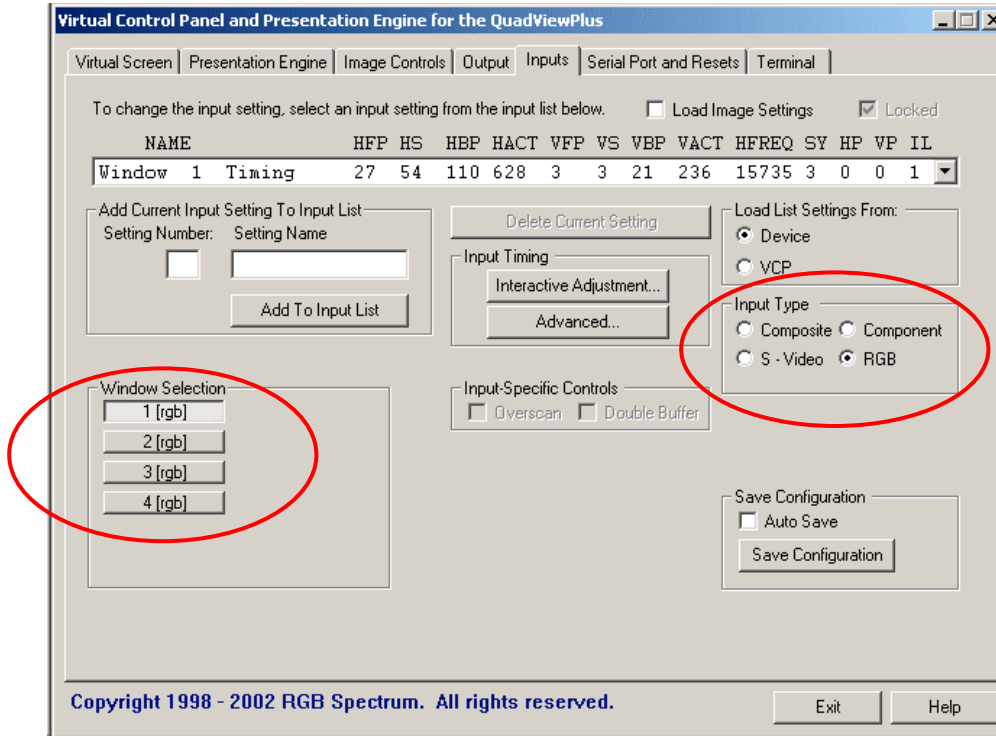

Figure 4. QuadView Plus VCP Input Page
The *Inputs* tab allows you to adjust input parameters for all QuadView Plus inputs. Each window can display one of four different type of input sources. The “Input Type” section in the right portion of the page allows you to select a QuadView Plus input source (see **Figure 4**).
2. Select the “Inputs” tab (**Figure 4**).